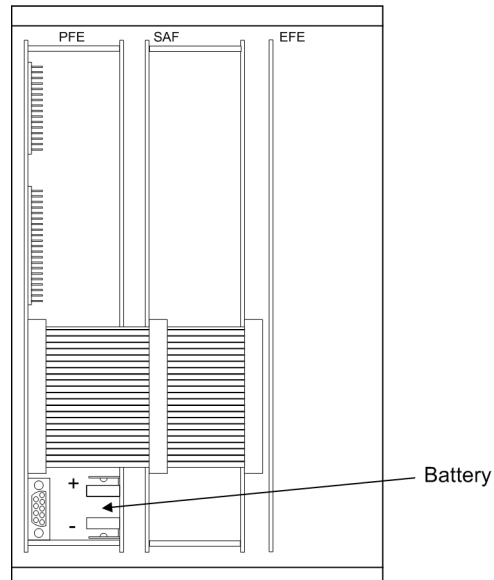
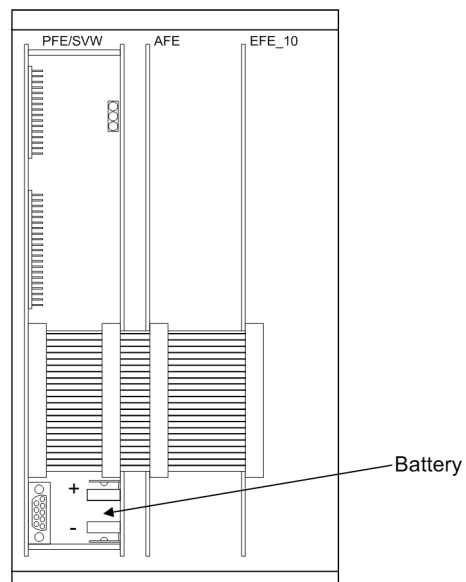

Figure 8-6 Front view after removing the front panel, and location of the buffer battery 7SS523
Figure 8-7 Front view after removing the front panel, and location of the buffer battery 7SS525
- ❑ The battery is located on the bottom front of the PFE module (Figure 8-6, page 305).
- ❑ Press the new battery firmly into its snap-in holder (see Figure 8-6, page 305 or Figure 8-7, page 305). **Observe the correct battery polarity!**
- ❑ The fine-wire fuse is located on the power supply module (SAF or PFE/SVW). The location of that module is shown in Figure 8-6, page 305 or Figure 8-7, page 305.